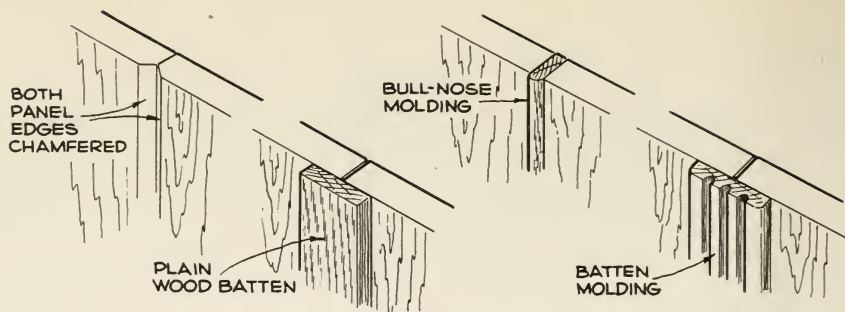

Fig. 4. Four methods of concealing joints at panel edges.
**Concealing Joints and Fitting Trim.** Most fine paneling is designed to make unobtrusive or even decorative joints by itself. Where plainer paneling is used, or material must be cut and joined at other than shiplapped edges, the simple methods shown in Fig. 4 are applicable. In addition, various strip moldings (some of metal but with wood-veneer facing) are available to conceal joints and corners. If plywood edges must be chamfered, this is best done with sandpaper folded around a block; planing tends to tear ply edges unless the blade is very sharp.